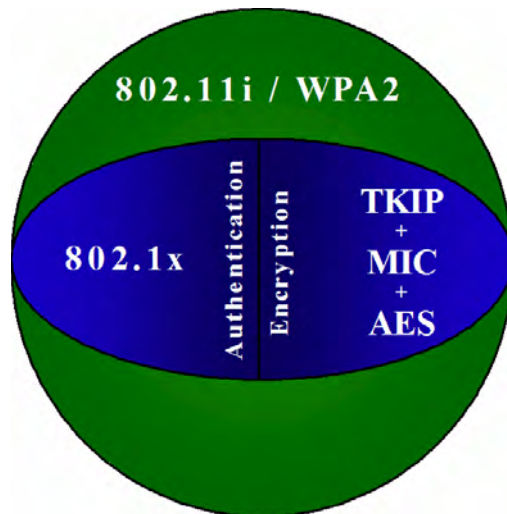

FIG. 90 WPA2 Overview
- With the RC4 released to the general public, the IEEE implemented the Advanced Encryption Standard (AES) as the cipher engine for 802.11i, which the Wi-Fi Alliance has branded as WPA2 (FIG. 90).